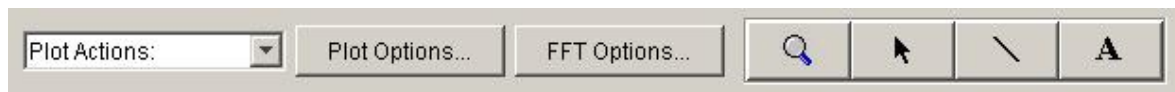

Figure 6: WaveVision4 Plot Tools
The WaveVision4 software provides several tools to help you interact with plots. A toolbar appears above each plot, similar to Figure 6.
**FFT Options:** The toolbar shown in Figure 6 is from an FFT plot, so it contains a button to edit the options for the current FFT calculations. Depending upon the type of plot, various options may be present on the toolbar. You may edit the default options by choosing **Default FFT Options** from the **Settings** menu. Each time new data is acquired, the default FFT options are used. A change in the default options results in a permanent change of these defaults. Please consult the appropriate section below for more information about these options.